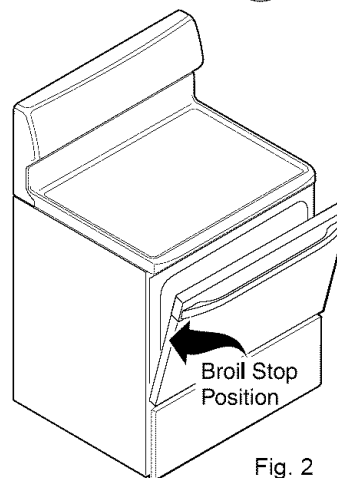

Fig. 2
6. Place the pan on the oven rack. **Open the oven door to the broil stop position when broiling** (See Fig 2).
- In the **downward position** to allow you to place light weight food items and empty dishware (for example, rolls or pastries and dinner plates - See Fig. 2).